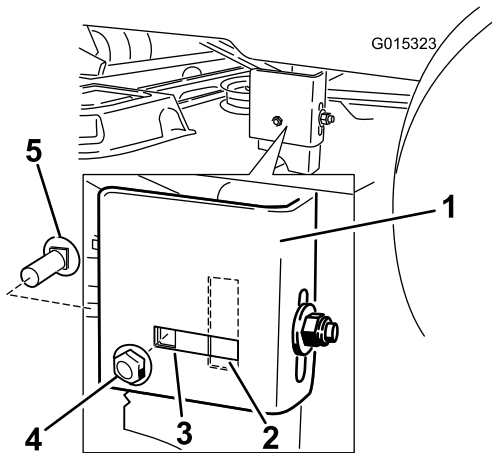

Figure 49
- Move to the left side of the machine. Remove the side carriage bolt and locking nut from the fixed position and install it into the rear, slotted position (Figure 49). Leave the lock nut slightly loose.